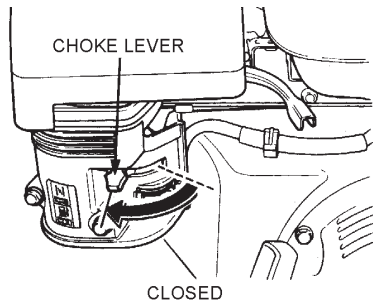

Figure 13. Choke Lever (Closed)
2. If the engine has started, slowly return the choke lever (Figure 13) to the "CLOSED" position. If the engine has not started repeat steps 1 through 6.